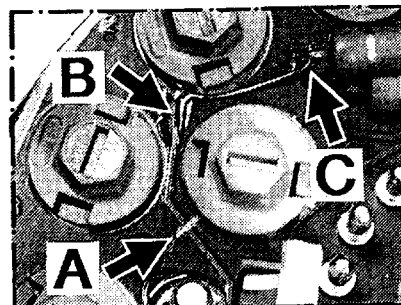

Figure 2
- Break the connection from lamp socket #2 (Arrow "A," Figure 2).
- Remove the insulating coating on the current track at arrow "B" (Figure 2).